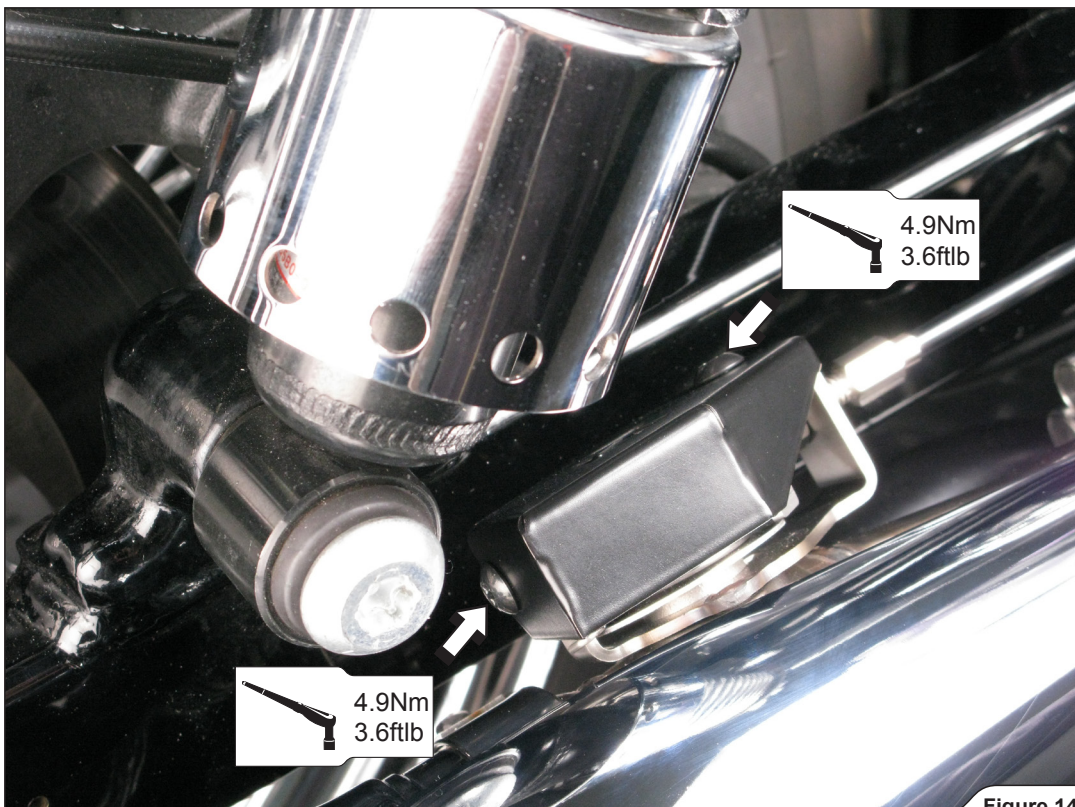

Figure 14
9. Assemble valve covers back onto exhaust valves (Figure 14).